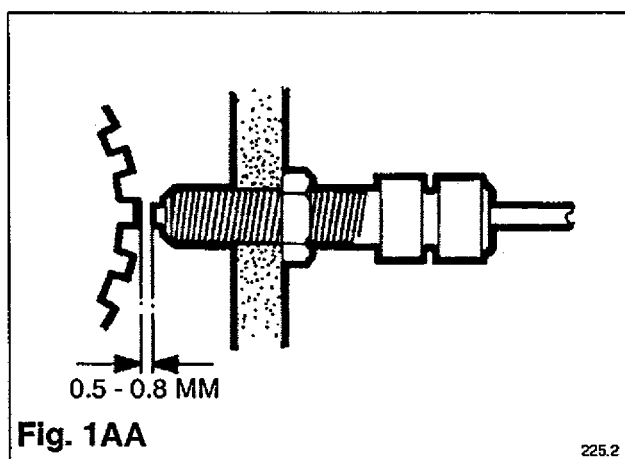

Fig. 1AA
- 5 Without moving the pick-up, screw the locknut down to the flywheel housing and tighten the locknut (see **Fig. 1AA**).
1. Set the pick-up gap (0.5 to 0.8 mm) see **Fig. 1AA**. Set the control box on each bank in turn.